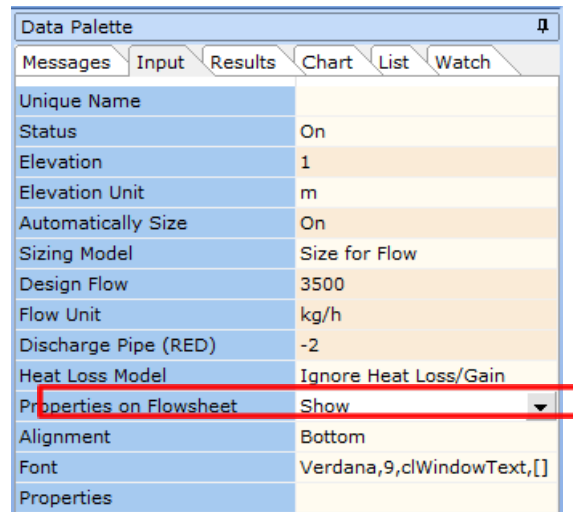

Figure 55: Show Properties on Flowsheet.
58. Now let us show the properties of the compressor. Left mouse-click on the compressor (node 3) and from the *Input Inspector*, change the field titled *Properties on Flowsheet* from *Hide* to *Show* (Figure 55).